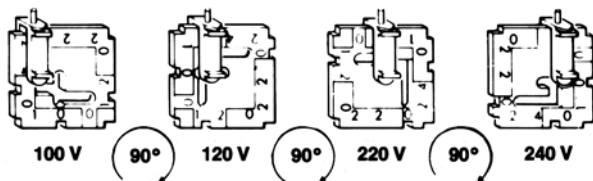

Figure 2.2. Voltage selection card orientation.
4. The indicator pin can be moved across the slot located on the voltage selection card. To set the required operating voltage of the pump, orient the selector card so that the desired voltage is readable at the bottom. Orient the indicator pin to point upwards when desired voltage is readable at the bottom (Figure 2.2). The indicator pin must slide into the notch located on the outside edge of the voltage selection card.